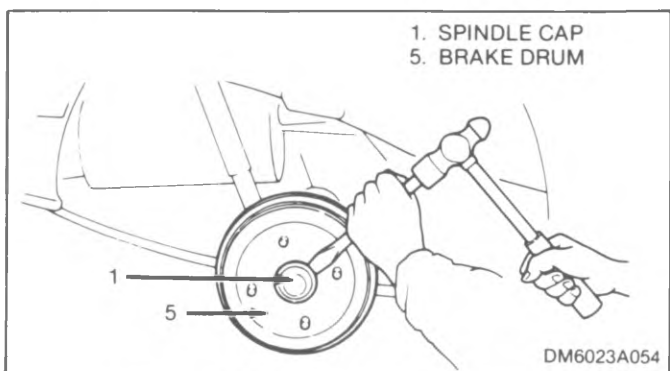

Figure 4-10. Removing Spindle Cap
2. Remove spindle cap (1) by tapping a suitable chisel around cap circumference as shown in figure 4-10. Use care not to dent or deform cap.
3. Remove the cotter pin (2), nut (3) and washer (4).